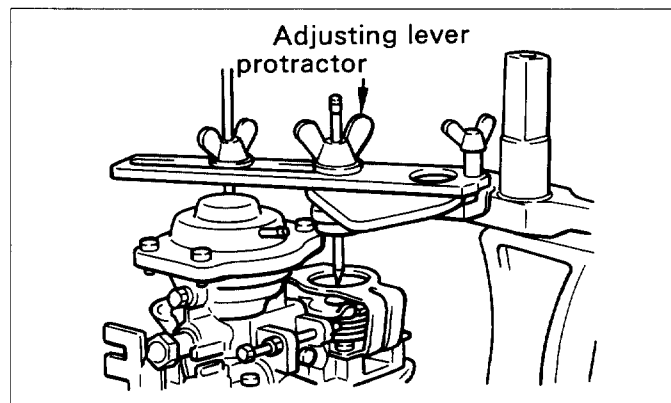

Fig.15-37
(1) Remove the RPS, and fix the angle index plate by setting the center of the angle index plate of the adjusting lever protractor. (See Fig.15-37)